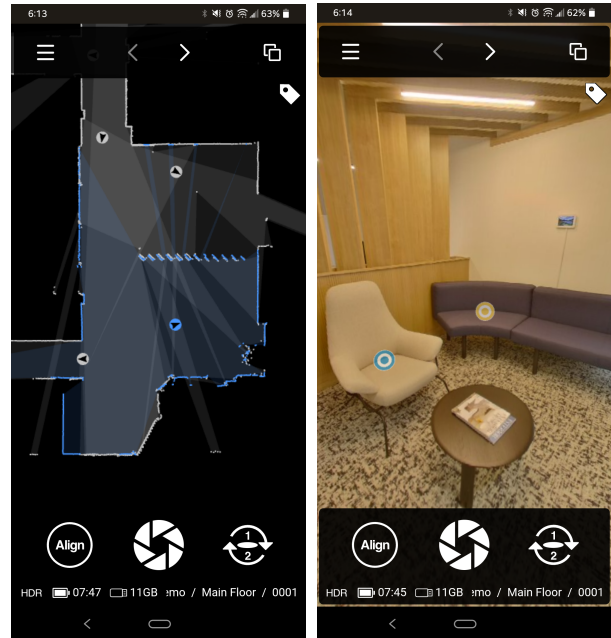

Figure 14 - Laser Display (left), Pano Display (right)
- Tap the **Display** button  at the top-right to enter Laser Display mode (figure 14).
2. Tap the **Tag** button  in the top-right corner of the screen (see figure 14).